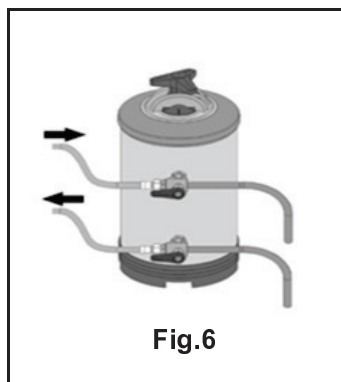

Fig.6 BRUG AF BLØDGØRINGSANLÆGGET
3) BRUG AF BLØDGØRINGSANLÆGGET (Fig.6)